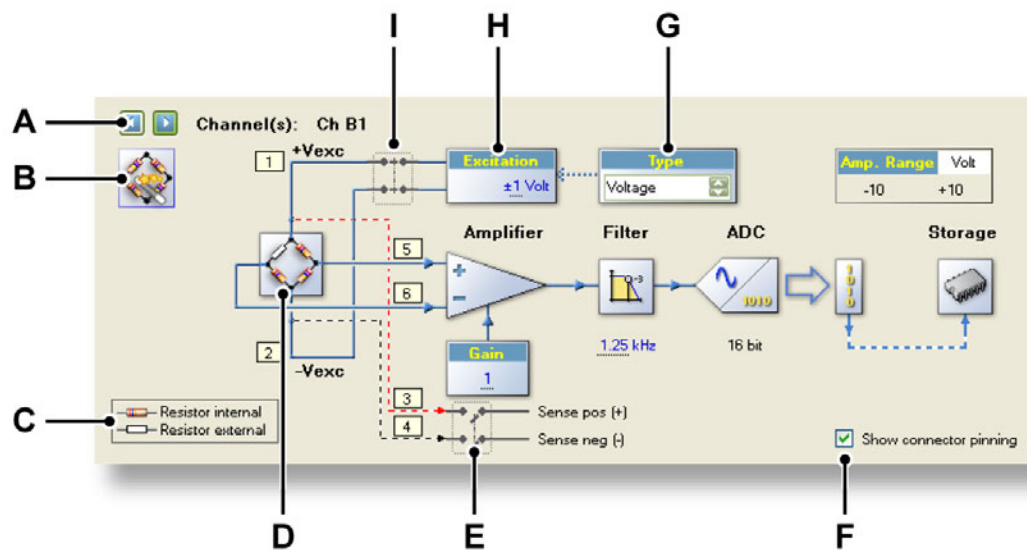

Figure 12.17: Perception Bridge Amplifier simplified block diagram
- In the simplified graphical diagram click on the bridge icon (D in Figure 12.17 on page 260) until you see the full bridge representation.
- In the simplified graphical diagram click on the bridge icon (D in Figure 12.17 on page 260) until you see the half bridge representation.
- In the simplified graphical diagram click on the bridge icon (**D** in Figure 12.17 on page 260) until you see the quarter bridge representation.
- In the simplified graphical diagram click on the excitation switch (I in Figure 12.17 on page 260).
- In the simplified graphical diagram click the **Type** spinner (G in Figure 12.17 on page 260) until you see your selection.
- In the simplified graphical diagram use the **Excitation** box (H in Figure 12.17 on page 260) to enter a value.
- **Voltage Sense:** Voltage excitation with sense. When you select this option the sense lines are used: this will put the switch marked S1a and S1b in Figure 12.17 on page 260 into the sense position. Use the **Voltage** procedure to set the required voltage. You can also use the sense check boxes (marked E in Figure 12.17 on page 260) to toggle the sense lines.